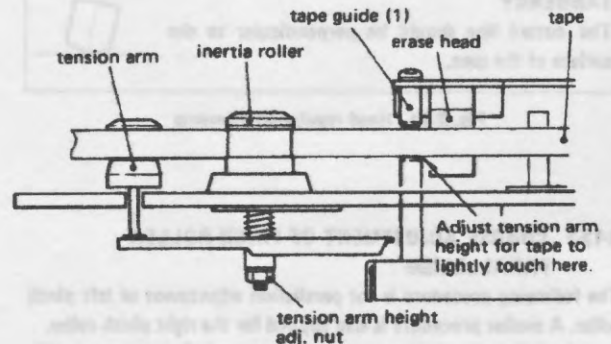

Fig. 2-21 Tension arm height adjustment
1. Running a TEAC YTT-8013 test tape (thickness =  $35\mu\text{m}$ ) in the forward direction, adjust the height of the left tension arm so that the lower edge of the tape is just touching the lower edge of the tape guide (1). See Fig. 2-21. Also refer to 2-10 TENSION ARM HEIGHT ADJUSTMENT".
2. Adjust the height of the tape guide (2) so that the upper edge of the tape is in contact with the upper edge of the tape guide.
4. Apply locking paint to the height adjusting nut of the tape guide (2).
5. During reverse play, adjust height of tape guides (3) and (4) in the same way as steps 1 ~ 4. For tape guide (4), adjust right tension arm height.